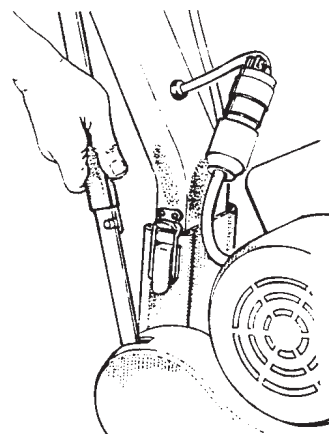

Figure 6
2. Install handle and fasten latches. See figure 6.